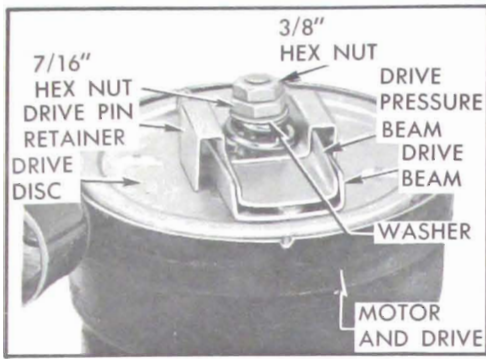

Figure 11-14—Antenna Drive
11. Hold the 7/16" hex nut on the output gear assembly shaft, remove the 3/8" hex nut (see Figure 11-14).